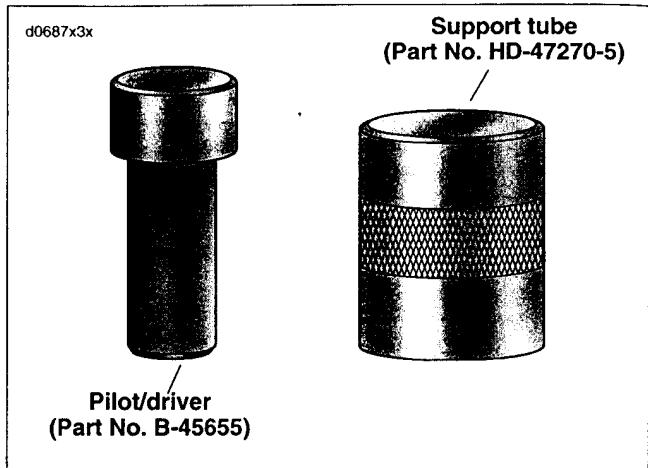

Figure 3-157. Left Crankshaft (Roller) Bearing
4. See Figure 3-157. Obtain CRANKSHAFT (ROLLER) BEARING REMOVAL/INSTALL SUPPORT TUBE (Part No. HD-42720-5) and CRANKSHAFT (ROLLER) BEARING REMOVAL/INSTALL PILOT/DRIVER (Part No. B-45655).
1. See Figure 3-157. Obtain CRANKSHAFT (ROLLER) BEARING REMOVAL/INSTALL SUPPORT TUBE (Part No. HD-47270-5) and CRANKSHAFT (ROLLER) BEARING REMOVAL/INSTALL PILOT/DRIVER (Part No. B-45655).